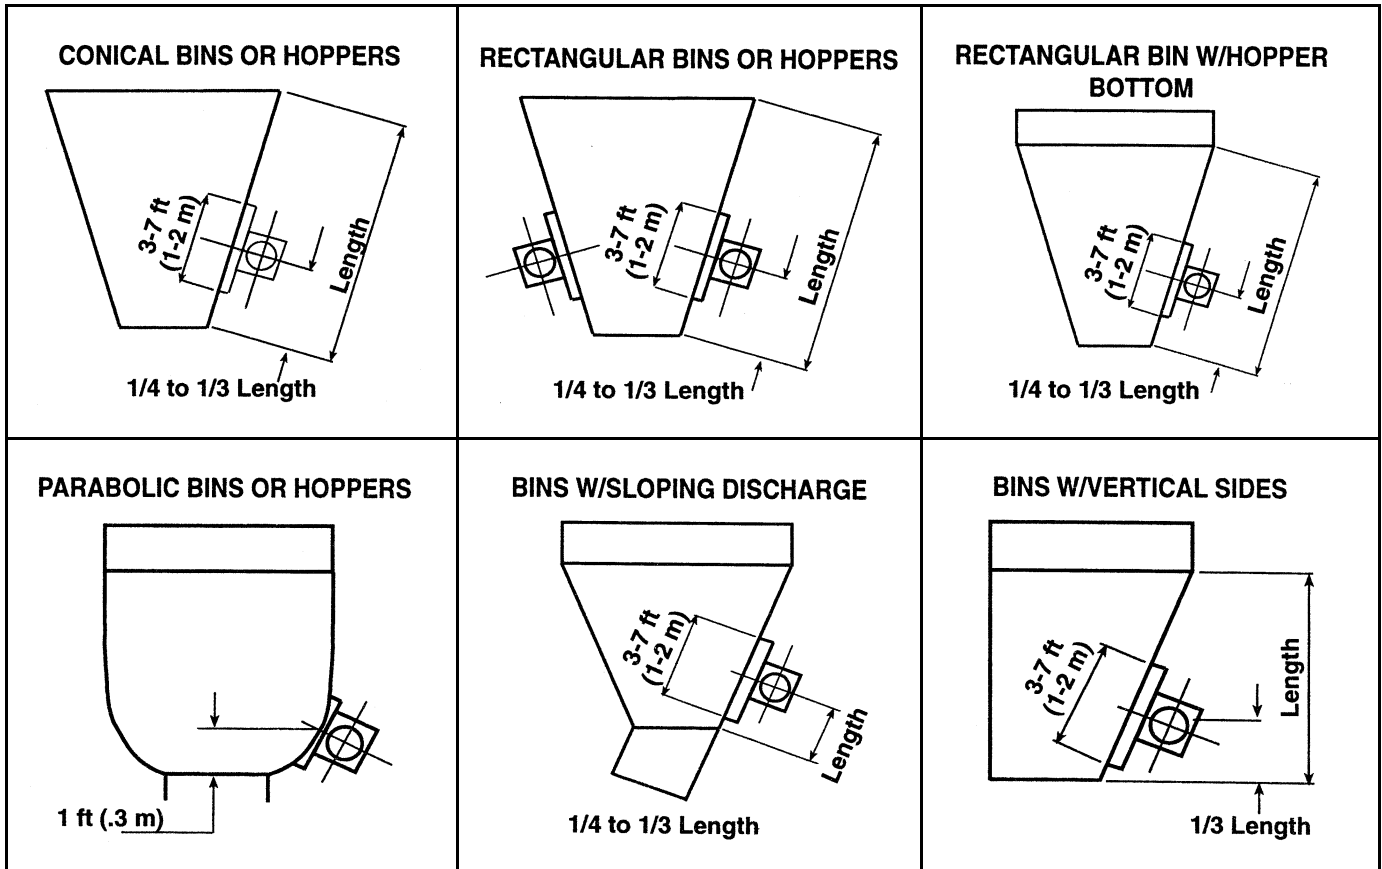

FIGURE 1
1. Determine where the vibrator(s) should be placed on the bin, one-quarter or one-third up the sloping side. Refer to Figure 1, page 6.
Mount the vibrator with the shaft in the horizontal position, rotating in the direction of material flow. Vibrators with shaft mounted vertically will create a gyratory effect; this may be desirable only if the bin is isolated from its supporting structure. **Figure 1** illustrates how to locate vibrators on various types of bins.